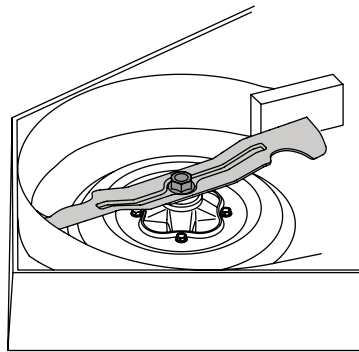

Figure 4-22
2. Use a 1-1/8" wrench to hold the hex nut on top of the spindle assembly when loosening the bolt securing the blade. A block of wood may be placed between the deck housing and the cutting edge of the blade to help in breaking loose the hex nut securing the blade. See Figure 4-22.